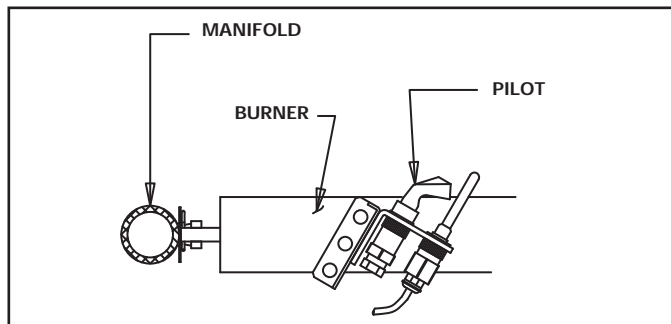

Figure 7. Pilot/Burner
- g) Remove existing main burner orifice from the manifold and replace with an orifice from the kit. (See figure 7).